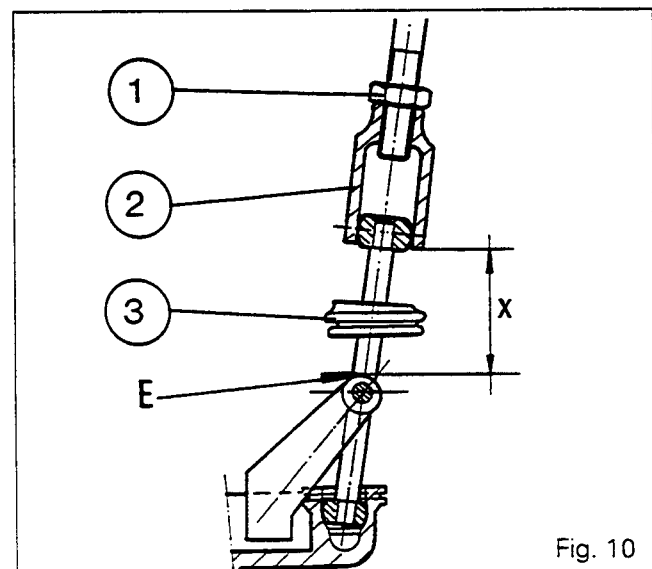

Fig. 10
50. Unlock nuts (1). Adjust the sleeves (2) so as to obtain a dimension X between the base of the sleeve and shoulder "E" on each lever (see Fig. 10).